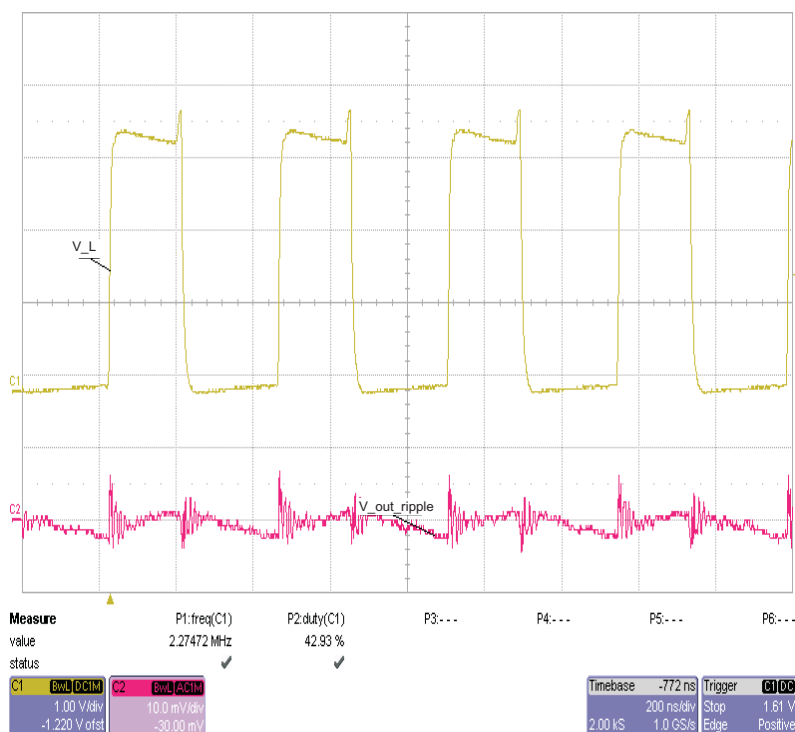

Figure 2. Boost Switch Node, V_L and Output Ripple; Vin = 1.5 V, Vout = 3.3 Vdc With 49.9-Ω Load
3. Look at CH1 and CH2, and verify that the duty cycle is between 54% and 60%, and the ripple is less than 10 mV. Note that the duty cycle is the on-time (low) divided by the period (Figure 2).